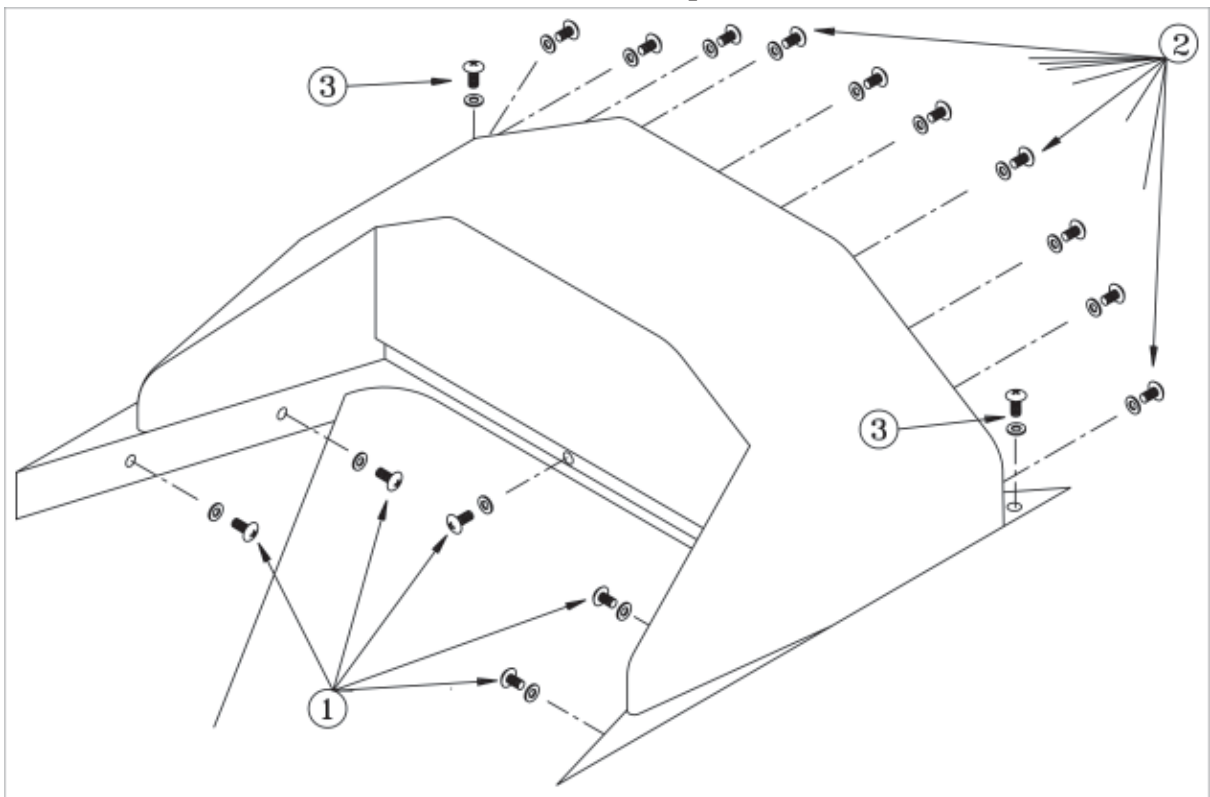

Figure 3
- 1 Remove the screws located at the top of the front seat back rest (1, Figure 3).
- 2 Remove the outer screws (2) of the rear instrument panel (The two inner screws connect the panel to the steelframe).
- 3 Remove the cockpit corner cover screws (3).